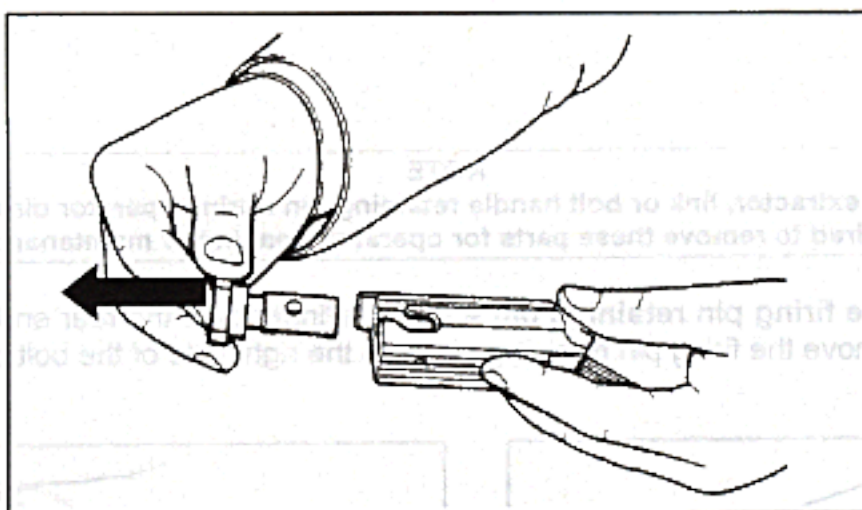

Figure 28. Removing the bolt head from the bolt carrier
- E. **Remove bolt head** – Pull the bolt head from the bolt carrier (Figure 28).